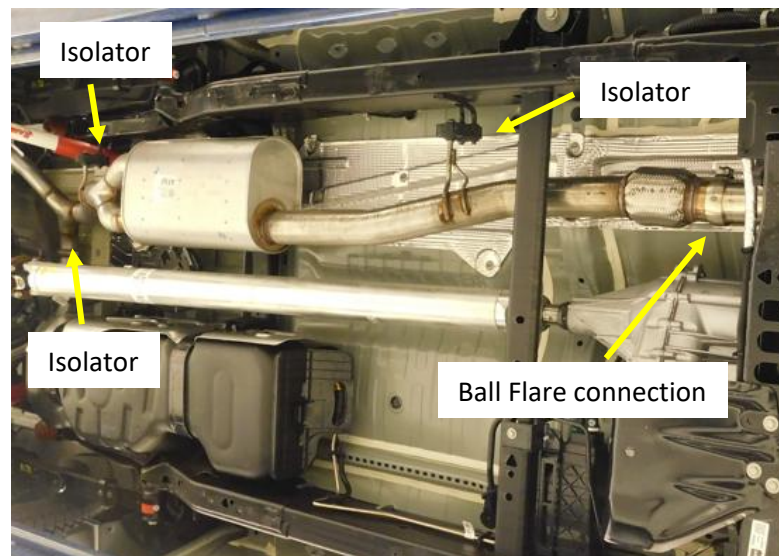

Figure.5
9. Loosen the band clamp at the ball flare connection on the muffler Inlet pipe. **Fig.5**
10. Spray the isolators with spray lube and remove the hanger isolators at the rear of the muffler and the single isolator at muffler inlet pipe. **Fig.5**